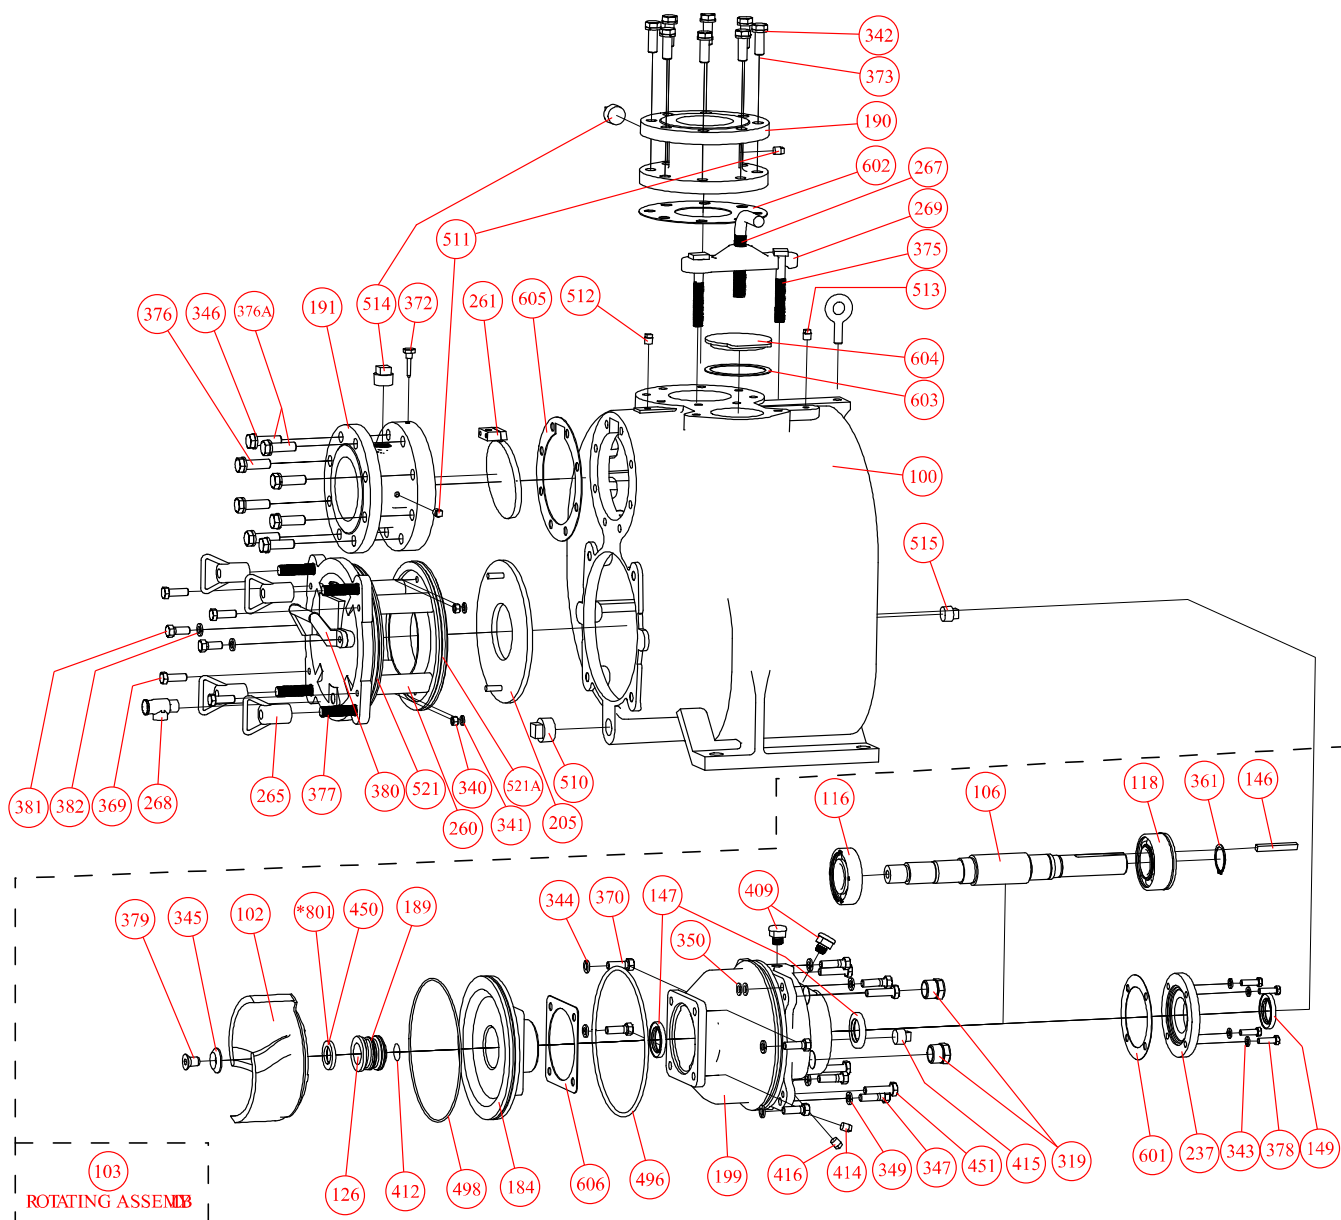

Figure 10-1: SNS Exploded View (SN04SA)
The rotating assembly (103) is defined as the parts within the dashed line shown in Figure 10-1 on page 24. The assembly can be removed without disconnecting piping from the pump but the drive components may need removal to allow space for the rotating assembly (103) removal.